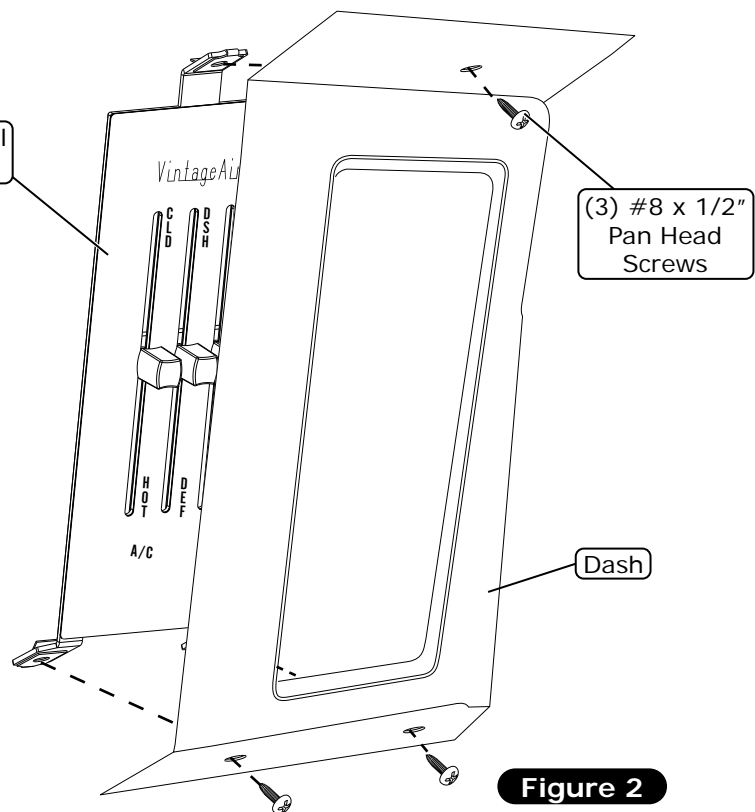

Figure 2
2. From behind the dash, place the control panel against the dash opening (See Figure 2, below).
3. Secure the control panel to the dash using (3) #8 x 1/2" pan head screws (See Figure 2, below).